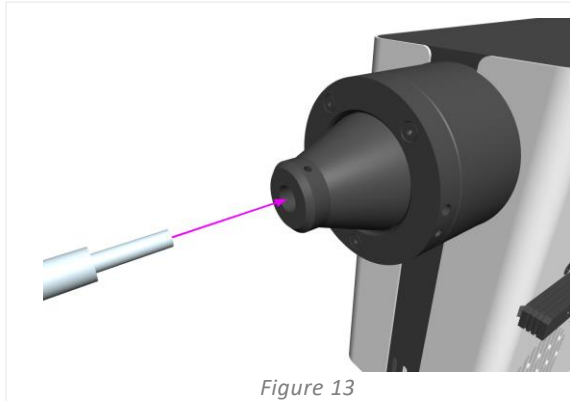

Figure 13
1. Insert a free end of a 3 mm liquid light guide into the Light Source, ensuring that the light guide is fully seated in the Light Source output barrel (Figure 13).